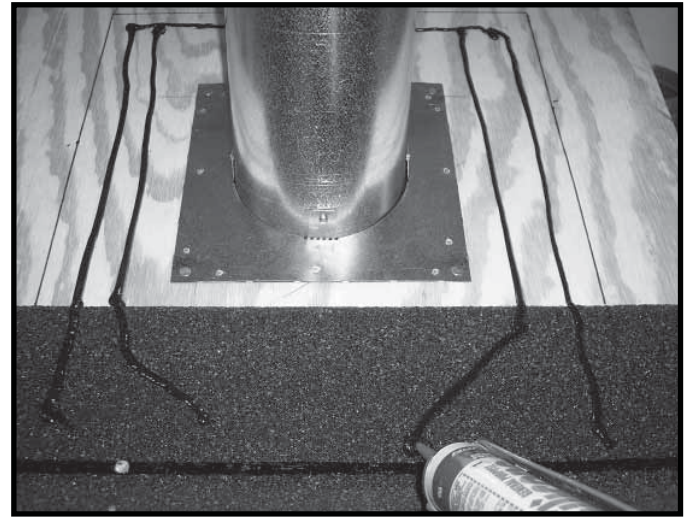

Figure 8.20 Apply Sealant
- Apply silicone sealant to roof inside the lines (Figure 8.20)